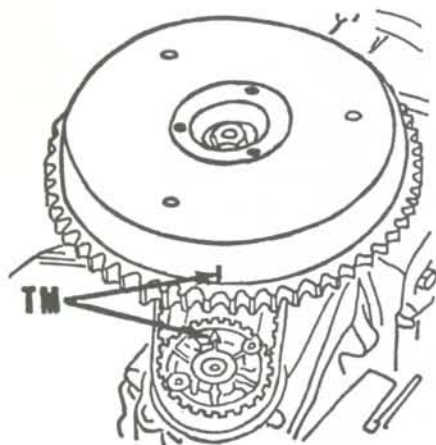

Fig. M7-20—When timing the magneto or distributor; or installing a new timing drive belt, timing marks (TM) must be aligned as shown.
To install the magneto drive belt, remove the flange plate on top of magneto pulley; then remove the flywheel using a puller. Turn the magneto pulley until the arrow cast into top of pulley points toward crankshaft as shown in Fig. M7-20. When installation is complete, flywheel and magneto timing marks must be toward each other and on the axis of a line connecting the crankshaft and magneto shaft as shown at (TM). The magneto shaft has a blind spline which aligns with a similar spline in magneto pulley shaft.
the arrow cast into top of pulley points toward crankshaft as shown in Fig. M7-20. Install drive belt and flywheel with timing marks aligned as shown at (TM).
Fig. M7-22—To install and time the distributor on direct reversing models, turn the drive tang until the offset end of tang faces forward as shown at (A). On gearshift models, cut-out notch should be facing forward as shown in view (B). Align pulley timing marks as shown in Fig. M7-20.